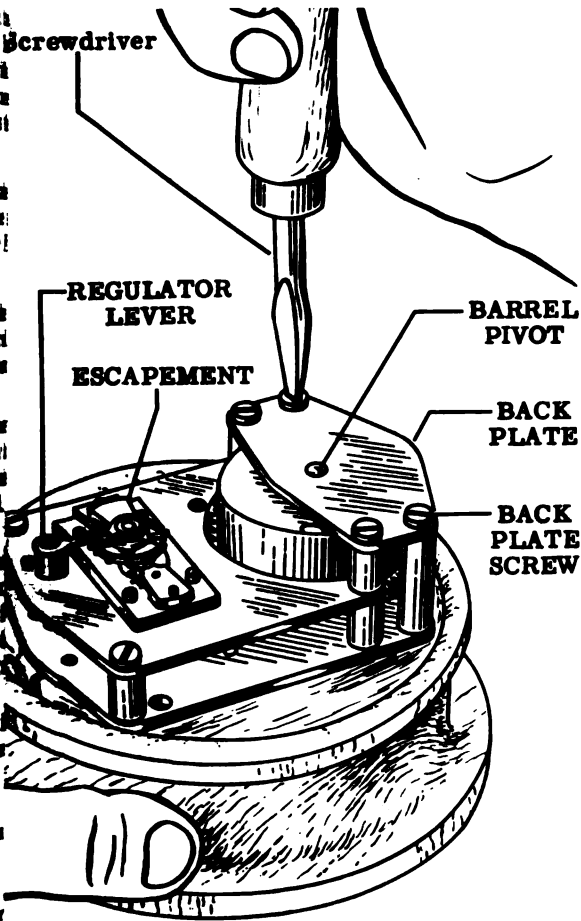

Figure 121
16. Put the back plate in position and screw it down with the four back plate screws shown in Fig. 121.